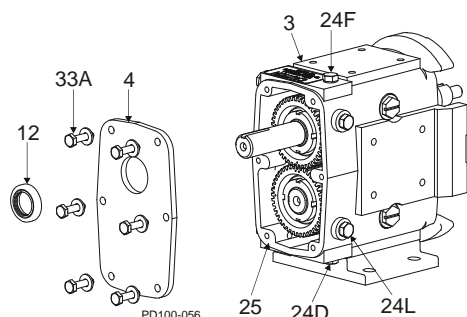
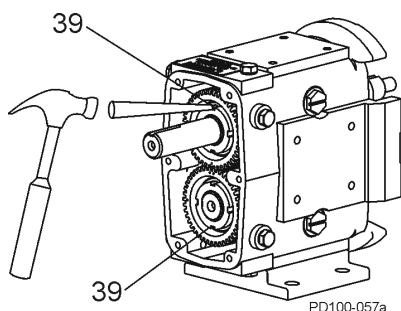

Figure 37 - Remove Gear Case Cover
Figure 38 - Straighten Lock Tab on Lock Washers
1. Remove the oil drain plug (Figure 37, item 24D); drain the oil.
2. Remove the cap screws from the gear case (Figure 37, item 33A).
3. Pull the cover (item 4) off the shaft extension. If the cover sticks, use a soft hammer to loosen it.
4. Remove the silicone sealant (item 25) from the gear case and cover.
5. Using an arbor press, remove the oil seal (item 12) from the cover. Discard the used oil seal.
6. Straighten the tab on the lock washers (Figure 38, item 39).